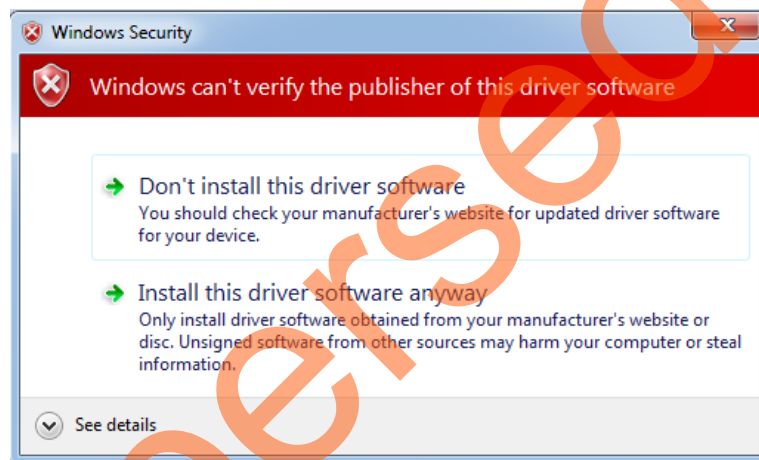

Figure 10 • Windows Security
4. Click **Install this driver software anyway**, if the window appears as shown in Figure 10.